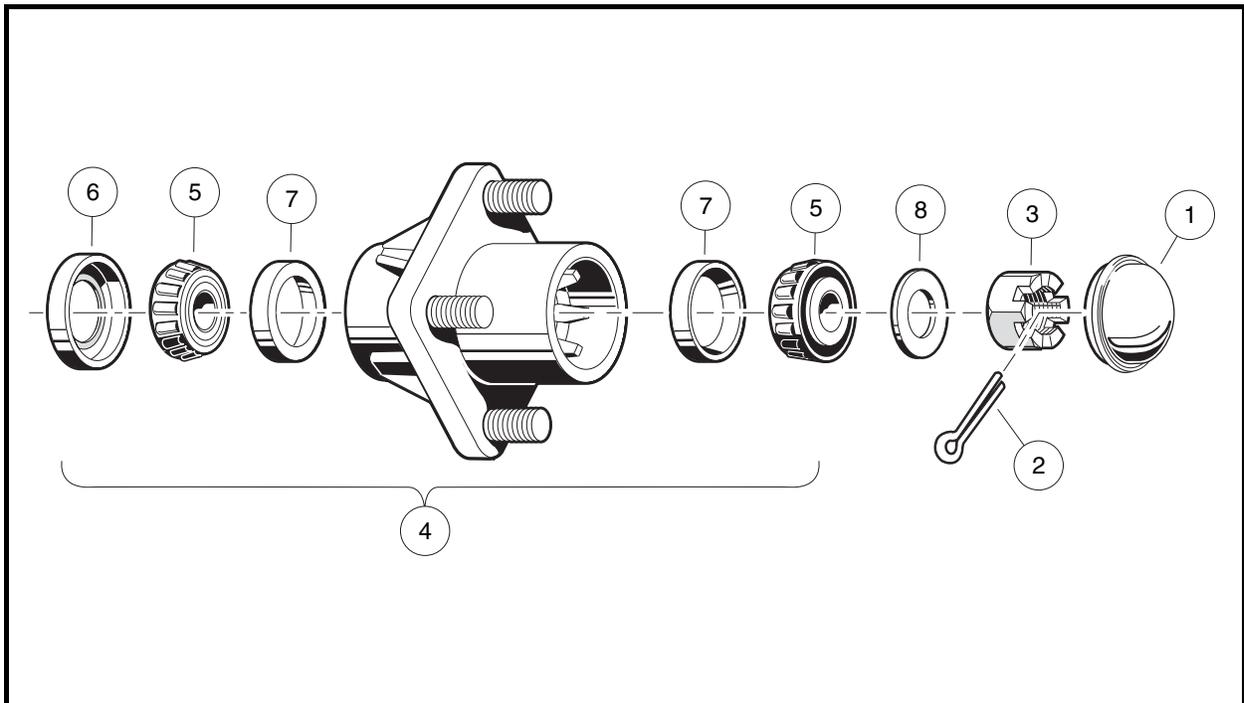

Figure 7-25 Front Wheel Bearings and Hub
2. Using your hands, attempt to rock the wheel and hub assembly back and forth on the spindle. If there is any observable movement of the wheel and hub on the spindle, remove dust cap (1) and cotter pin (2), and then tighten the spindle nut (3) until the bearing (5) fully seats in the bearing race (7).
4. Install a new cotter pin (2). If movement continues, replace the wheel bearings (5) as required (Figure 7-25, Page 7-23).
- 2.1. Remove dust cover (1), cotter pin (2), spindle nut (3), and flat washer (8) (**Figure 7-25, Page 7-23**).
1. Pack the wheel bearings (5) and hub cavities, and lubricate cups (7) with wheel bearing grease or chassis lube. Make sure the grease is forced between the rollers (**Figure 7-25, Page 7-23**).
2. If bearing cups (7) were removed, press new ones in squarely against stops in the hub. **See following NOTE.**